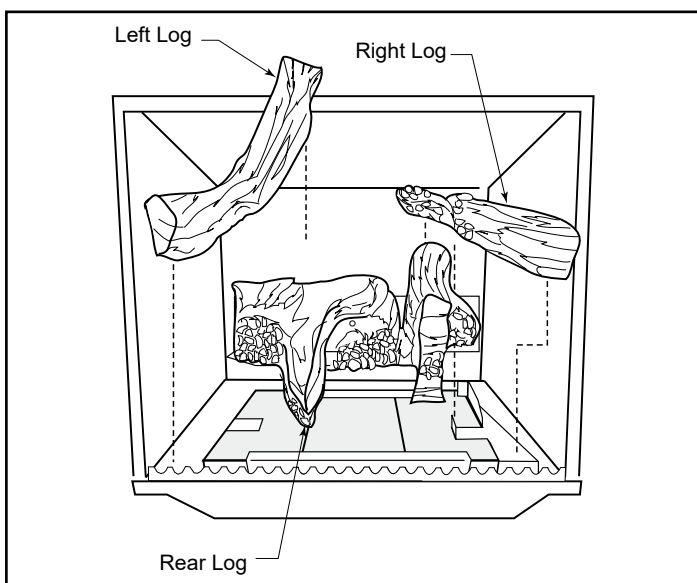

Figure 2.9 - Install rear, left and right logs.
2. Install the rear log by placing it on the sheet metal shelf at the back of the firebox, Figure 2.9. The log should touch the back wall of the firebox and be centered.
3. Install the right log by placing it on the sheet metal bracket behind the grate with the right end of the log, "the thicker end", touching the grate and the right side the firebox. Swing the left end of the log "painted end", backward until it comes in contact with the branch on the rear log. Set the log down over the bent tab on the right. When the log is in place it rests on the tab mentioned earlier and the tip of it comes in contact with the branch on the rear log, Figure 2.9.